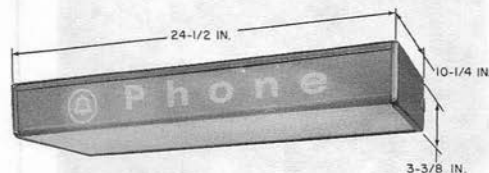

Fig. 2—KS-19322 Sign for Phone Service
- KS-19322 (Fig. 2 and 3)
- Bottom area—white translucent plastic (Fig. 2).